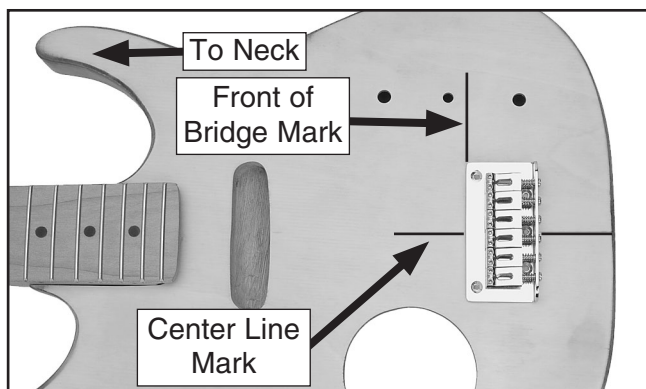

Figure 5. Bridge placement location.
8. Place the bridge on the guitar so it is parallel to the mark made in **Step 7** and perpendicular to the center line (see **Figure 5**). The center line should intersect the middle mounting hole on the bridge.